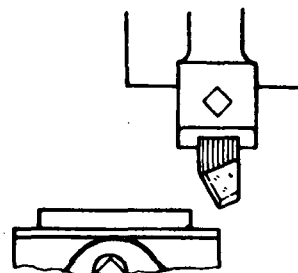

Fig. 9
- b) Move the workpiece away from the tool (Fig. 9) and stop the machine.